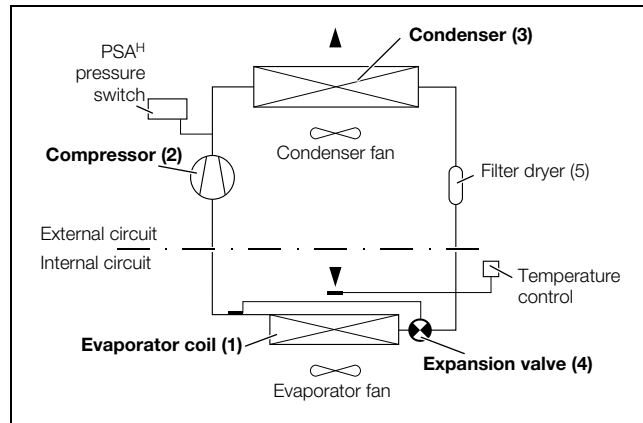

Fig. 2: Cooling circuit
The cooling unit (compression refrigeration system) comprises four main components (see fig. 2): the evaporator (1), the refrigerant compressor (2), the condenser (3), and the control or expansion valve (4), which are connected by suitable pipework.